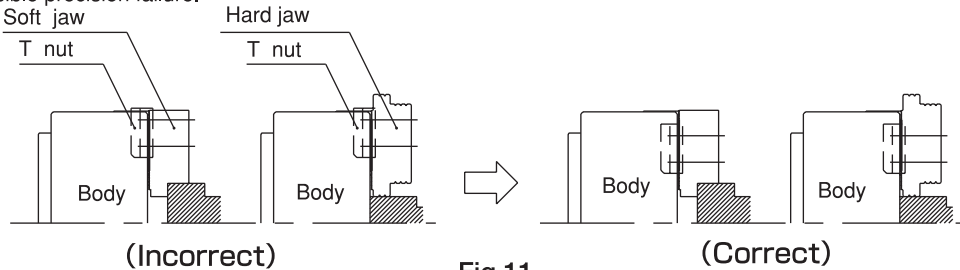

Fig.11
- Use the T nut so that it does not come out from the master jaw. (Refer to Fig.11)